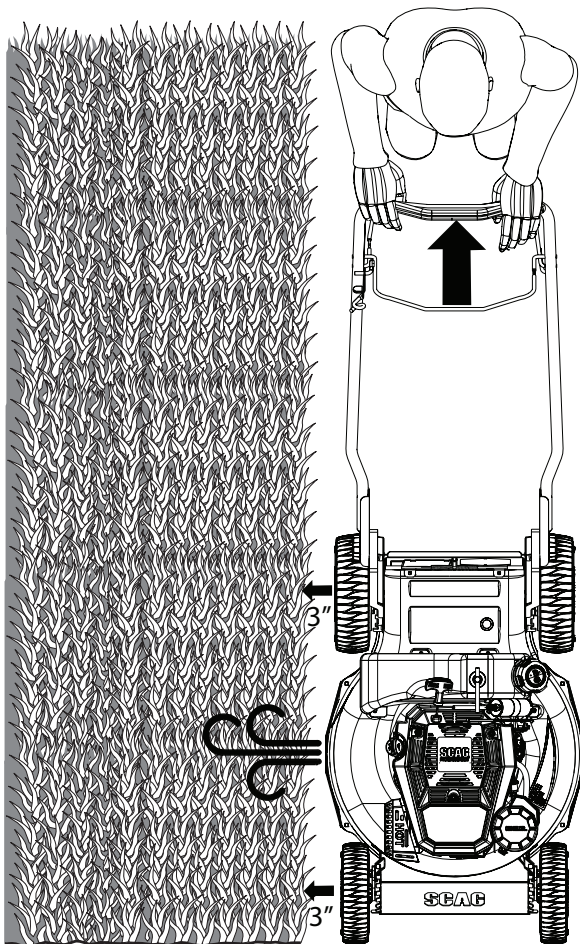

Figure 4-2. Blade Stop Test
4. Position the machine next to a patch of grass and approximately 3" away. See Figure 4-2.